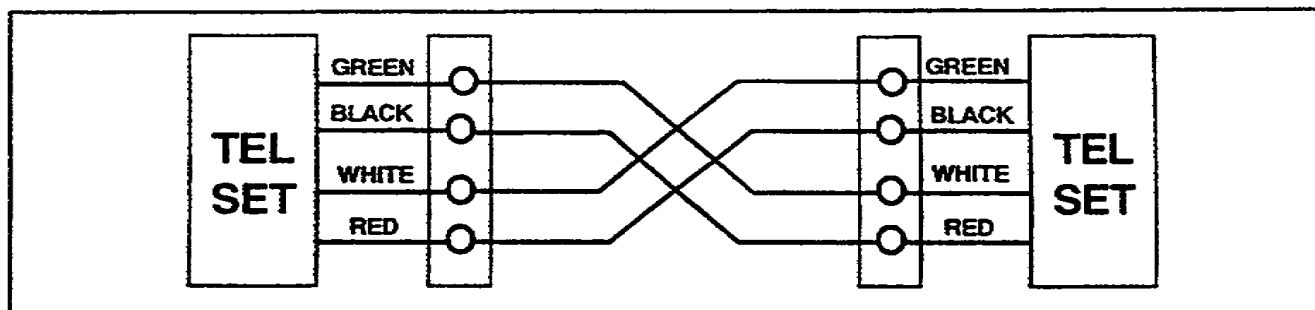

Figure 1-5. Cabling diagram for point-to-point operation.
b. If you were to go to the other end of the WF-16/U and connect the WF-16/U to the second telephone, you would have to connect the wires the opposite of what you did before--green wires to R and Y terminals and brown wires to G and B terminals. (See Figures 1-5 and 1-6.)